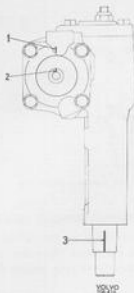

Fig. 6-73. Steering housing in middle position
1. Place the steering housing in the middle position. A slight increase in resistance should then be felt and the position of the pitman arm shaft lands should be as in Fig. 6-73 and the line-up marks on the steering spindle and housing should coincide.
2. Remove the locknut (17) and the attaching bolts (19) for the cover. Screw in the adjusting screw (11) through the cover and remove the cover (16). Take out the loose needles in the cover bearing (14).
3. Remove the circlip (13) and adjusting screw (11), see Fig. 6-76. Adjust the pitman arm shaft (10) to the center position and lift it up, see Fig. 6-73. With a magnet remove the loose rollers in the bearings (3 and 7).